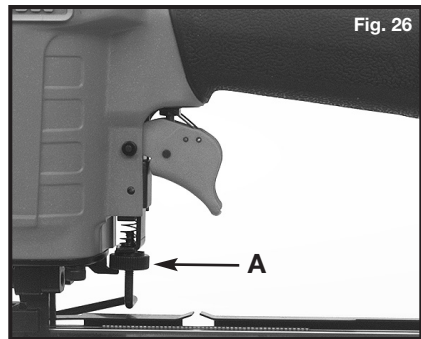

Fig. 26
The depth to which a fastener is driven is controlled by the depth adjustment knob (A) Fig. 26. The depth of drive is factory adjusted to a nominal setting. Test fire a fastener and check depth. If a change is desired, rotate the adjustment knob (A) Fig. 26: the adjustment knob has detents every  $\frac{1}{4}$  turn. Rotate the knob clockwise (see Fig. 26), to increase the depth of drive, rotate the knob counterclockwise to decrease the depth of drive. Test fire another fastener and check depth. Repeat as necessary to achieve desired results. The amount of air pressure required will vary depending on the size of the fastener and the material being fastened. Experiment with the air pressure setting to determine the lowest setting that will consistently perform the job at hand. Air pressure in excess of that required can cause premature wear and/or damage to the tool.